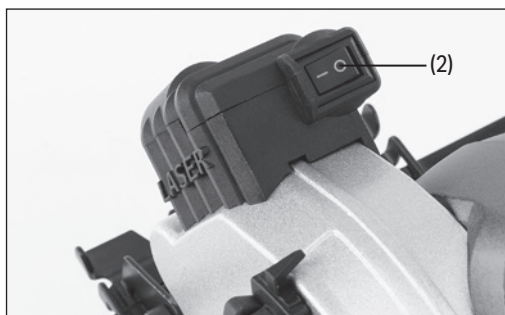

Fig. 9
7.4 Laser Line Generator (Fig.9)